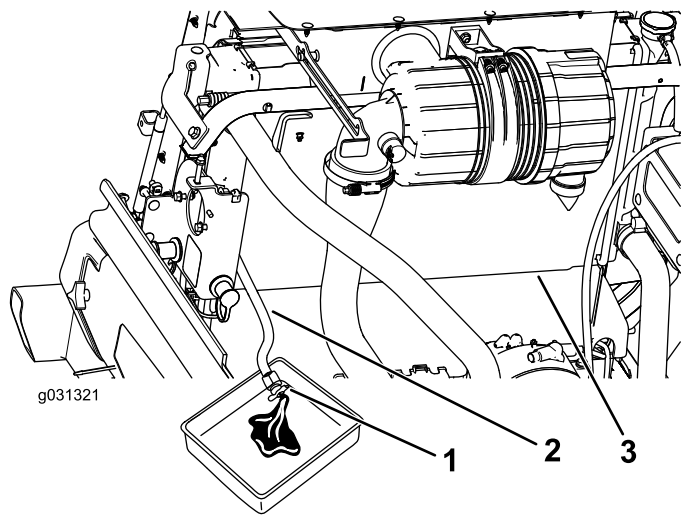

Figure 118
3. With the radiator drain hose placed in a drain pan, open the drain valve on the radiator hose and drain the fluid into a drain pan (Figure 118).